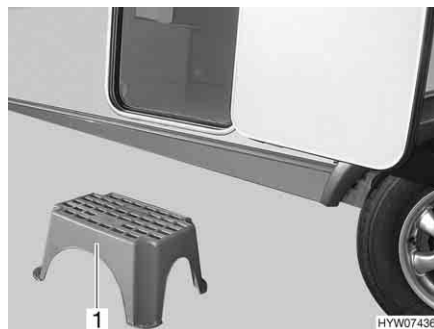

Fig. 22 Entrance step (free-standing)
- Place the entrance step (Fig. 22,1) in front of the entrance to the caravan.